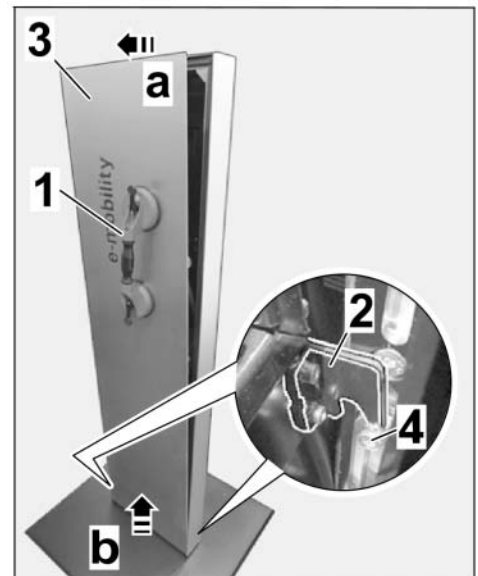

Figure 9
2.1.3 Pull the suction cup to open a gap ⇒ *Figure 9-a*- on the back.
2.1.4 Lift the back by approx. 2 to 3 cm ⇒ *Figure 9-b*- until the guides ⇒ *Figure 9-2*- come out of the mounts (cheese head bolts) ⇒ *Figure 9-4*-.